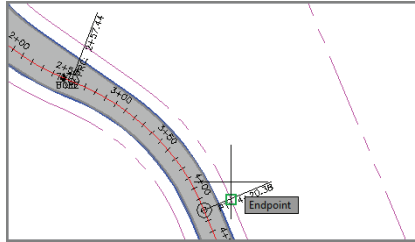

FIGURE 12.6 Snapping to the end of the curve to begin creating a new parcel line
5. Click Endpoint. Then click the end of the magenta curve at station 4+20.38 (0+128.13), as shown in Figure 12.6.